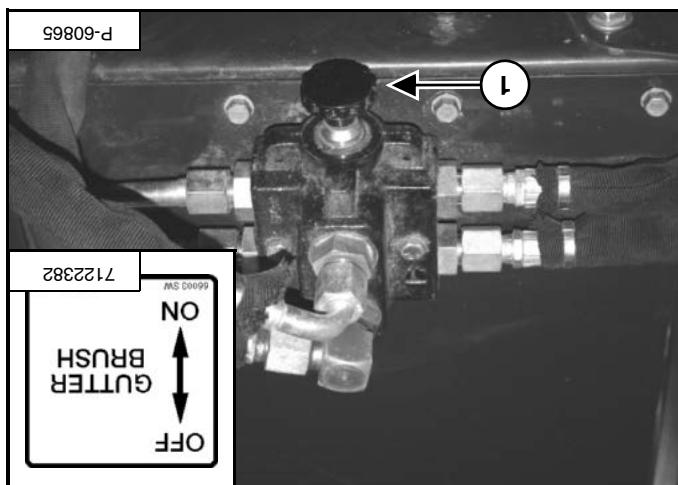

Figure 14
When the auxiliary hydraulics are engaged, the gutter brush will start to turn with the sweeper brush. Pull the knob (item 1) [Figure 14] into the ON position.